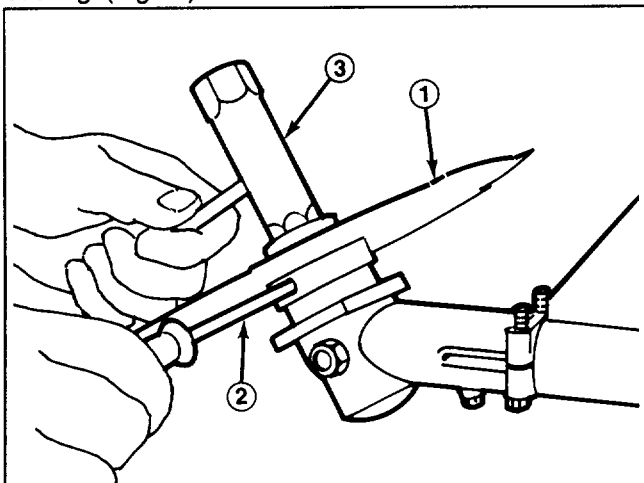

Figure 3
2. Install blade (teeth pointing in clockwise direction when viewed from bottom), mounting plate, and nut onto shaft (Fig. 3). Insert a locking tool into hole in blade fixing plate, rotate shaft until tool can be inserted through a hole in the gear case casting (Fig. 3).
3. Keep shaft from rotating with locking tool and tighten nut securely with wrench (left hand thread) (Fig. 3).